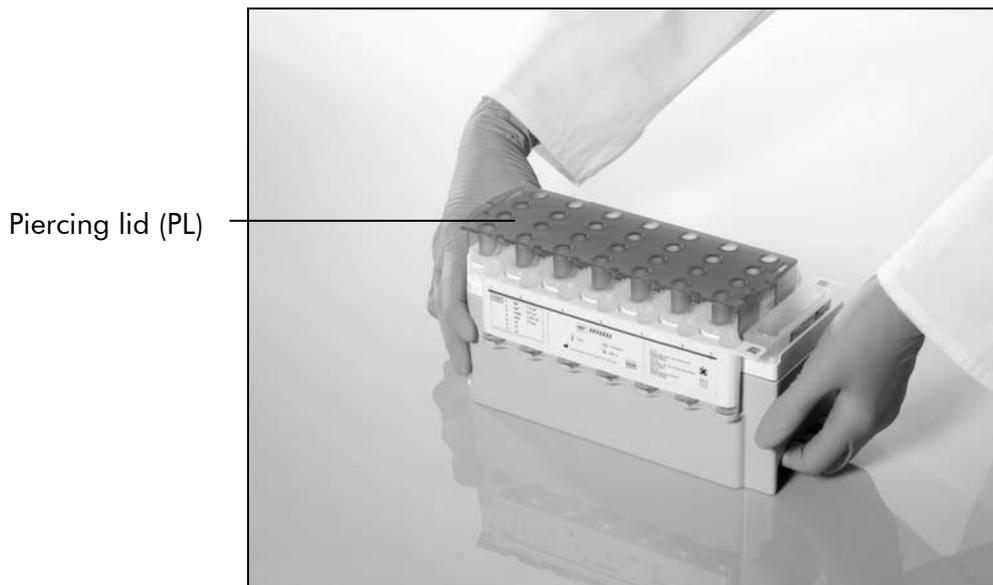

Figure 4. Easy worktable setup with reagent cartridges (RC).
Before starting the procedure, ensure that the magnetic particles are fully resuspended. Remove the magnetic-particle trough from the reagent cartridge frame, vortex it vigorously for at least 3 minutes, and replace it in the reagent cartridge frame before the first use. Place the reagent cartridge (RC) into the reagent cartridge holder. Place the enzyme rack (ER) into the reagent cartridge holder. Before using a reagent cartridge (RC) for the first time, place the piercing lid (PL) on top of the reagent cartridge (RC) (Figure 4).